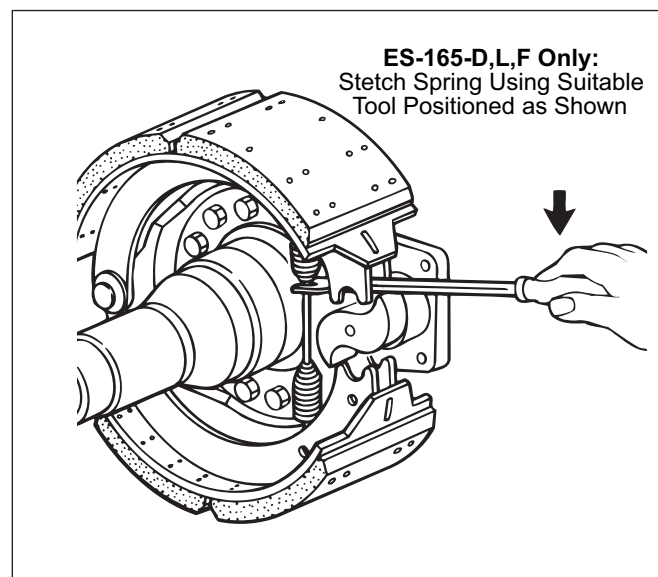

Figure 63. Shoe Return Spring Installation
5. Install a new shoe return spring. Refer to Figure 63.